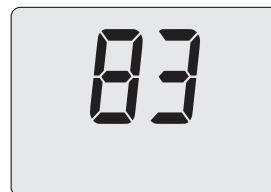

Figure 9.11
- 12 By using buttons "D" or "E" (Figure 9.5) it is possible to modify the value of parameter P02 (Figure 9.11).